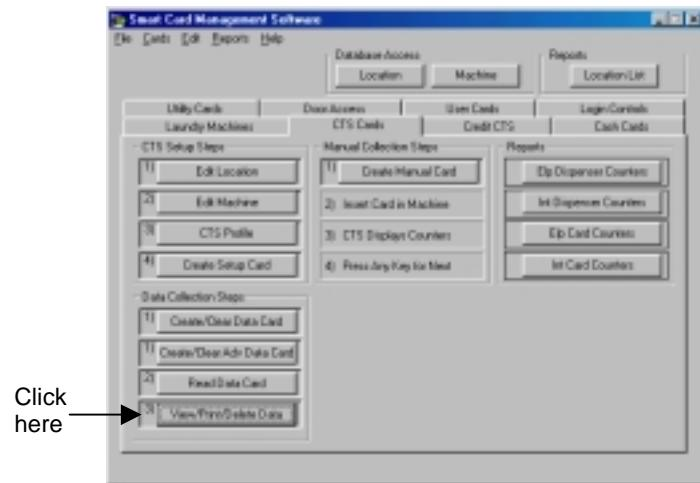

Figure 9.22 To Open the Data Collected Window
1. Click the View/Print/Delete button (Figure 9.22).